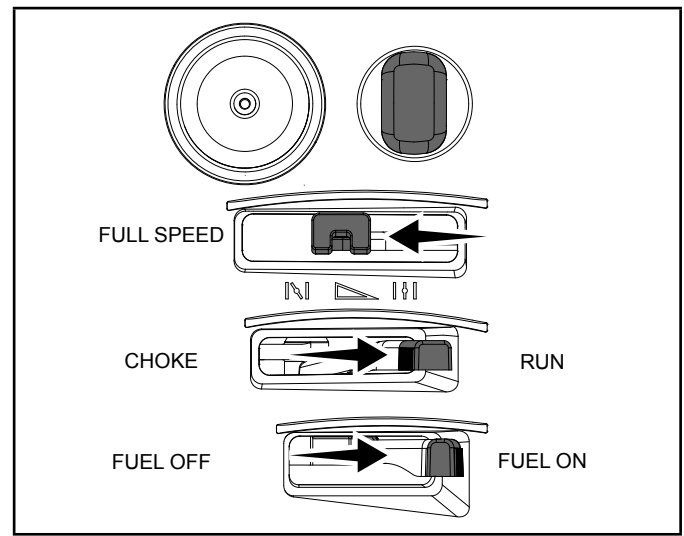

Figure 14
2. To start a warm engine: (Fig. 14).